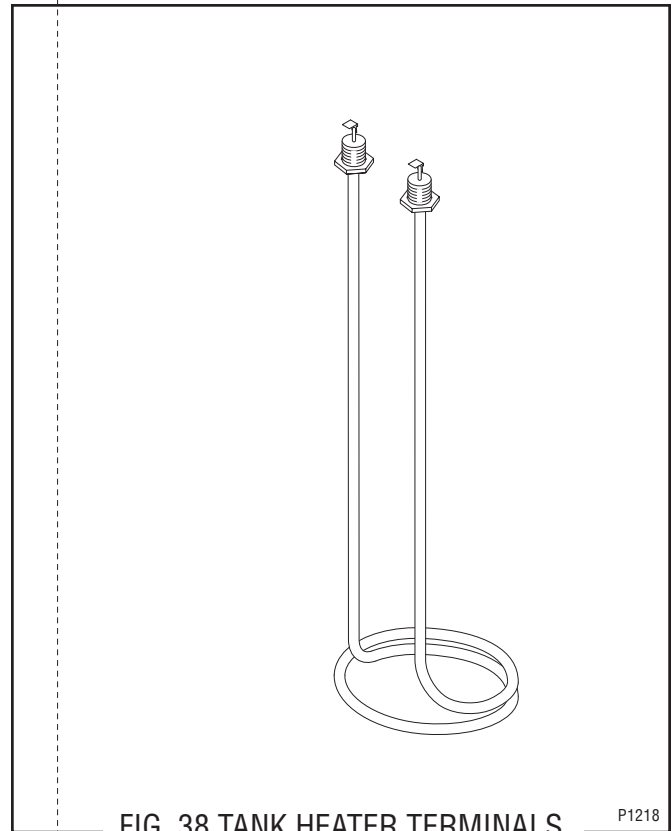

FIG. 38 TANK HEATER TERMINALS
15. Refer to Fig. 38 when reconnecting the wires to the tank heater.